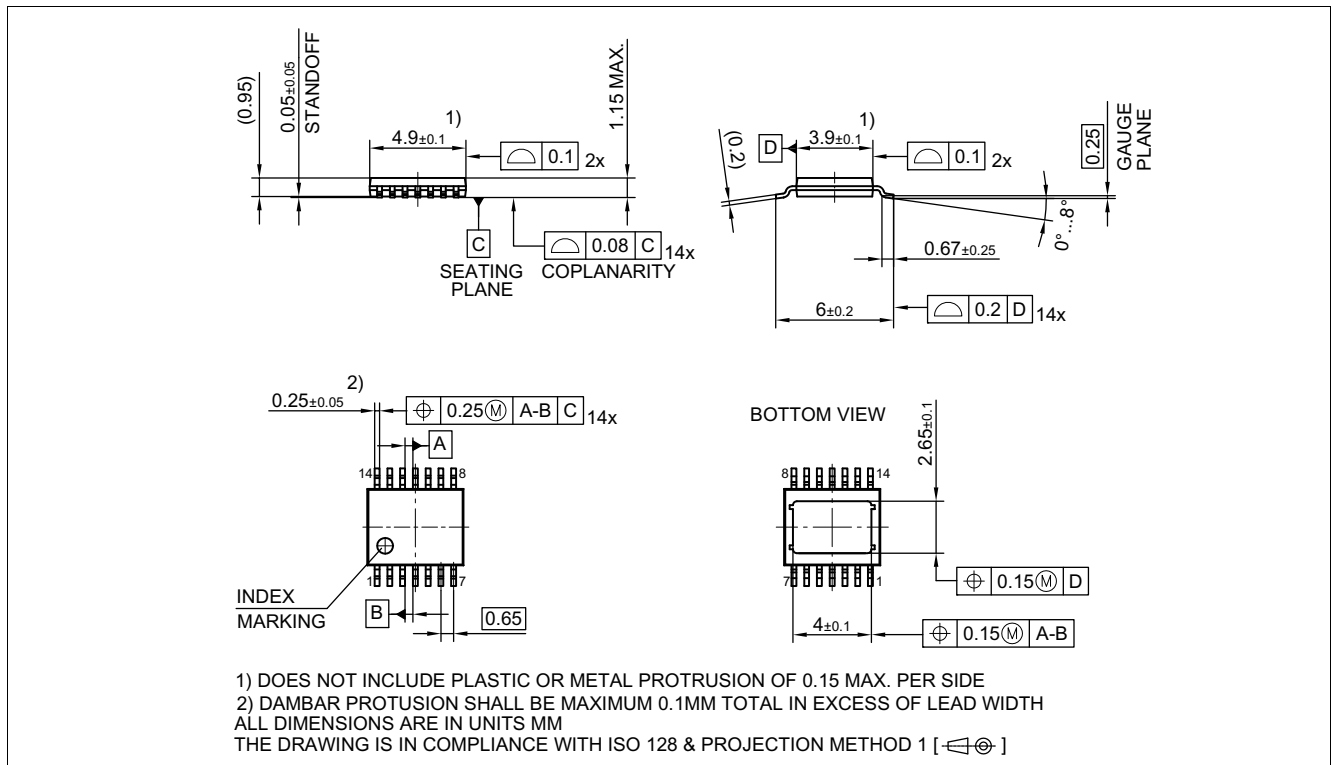
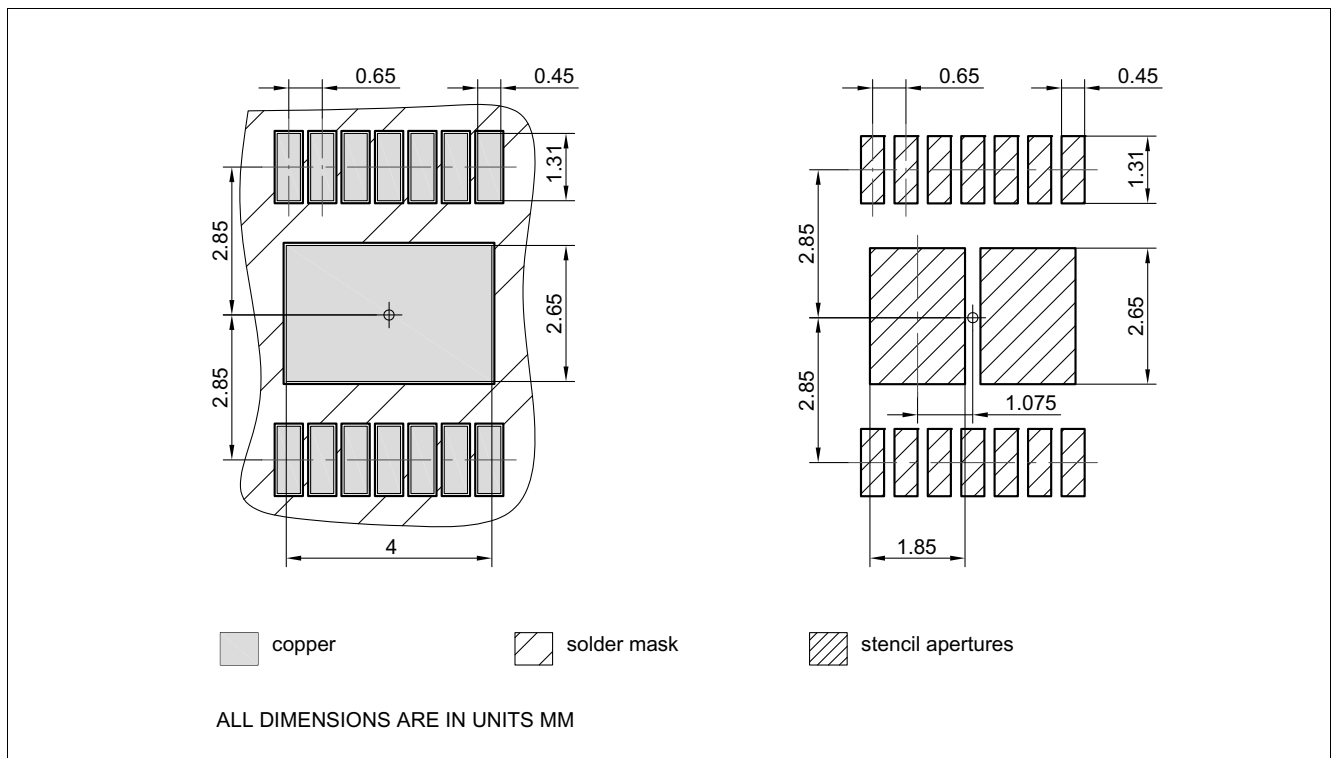

Figure 38 PG-TSDSO-14 (Thin (Slim) Dual Small Outline 14 pins) Package Outline
Figure 39 PG-TSDSO-14 (Thin (Slim) Dual Small Outline 14 pins) Package pads and stencil
1.02, 2019-02-05	<p>Figure 9, Figure 10 updated</p> <p>Page 1: updated (figure product)</p> <p>Table 22 updated (punctuation)</p> <p>Chapter 9.3, Chapter 9.3.1 updated (typo)</p> <p>Page 1: updated (Package PG-TSDSO-14-22 \rightarrow Package PG-TSDSO-14)</p> <p>Figure 38 updated (PG-TSDSO-14-22 (Thin (Slim) Dual Small Outline 14 pins) Package Outline \rightarrow PG-TSDSO-14 (Thin (Slim) Dual Small Outline 14 pins) Package Outline)</p> <p>Figure 39 updated (PG-TSDSO-14-22 (Thin (Slim) Dual Small Outline 14 pins) Package pads and stencil \rightarrow PG-TSDSO-14 (Thin (Slim) Dual Small Outline 14 pins) Package pads and stencil)</p> <p>Table 1 updated (Parameter: Minimum Overvoltage protection ($T_j = 25\text{ }^\circ\text{C}$) \rightarrow Minimum Overvoltage protection ($T_j \geq 25\text{ }^\circ\text{C}$))</p> <p>Table 1 updated (corrected typo in table Product Summary: $I_{\text{VS(OFF)}}$: 1 \rightarrow 0.9 μA)</p> <p>Table 1 updated (Symbol: $I_{\text{VS(OFF)}} \rightarrow I_{\text{VS(OFF)}_{85}}$)</p> <p>P_6.5.20.1 updated (Symbol: $I_{\text{VS(OFF)}} \rightarrow I_{\text{VS(OFF)}_{85}}$)</p> <p>P_6.5.20.2 updated (Symbol: $I_{\text{VS(OFF)}} \rightarrow I_{\text{VS(OFF)}_{150}}$)</p> <p>P_9.7.10.27, P_9.7.10.29 updated (Note or Test Condition: formatted physical symbols as subscript)</p>